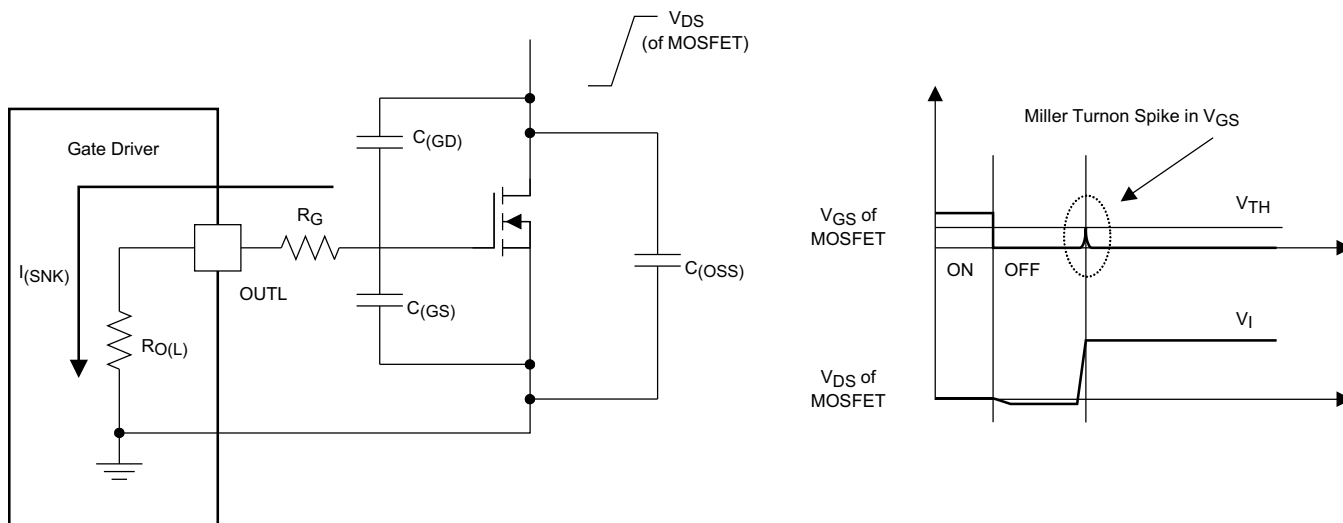

Figure 24. Very-Low Pulldown Impedance in UCC27511A, 4-A and 8-A Asymmetrical Drive (Output Stage Mitigates Miller Turnon Effect)
An example of a situation where the Miller turnon effect is a concern is synchronous rectification (SR). In an SR application, the dV/dt occurs on the MOSFET drain when the MOSFET is already held in off state by the gate driver. The current discharging the $C_{(GD)}$ Miller capacitance during this dV/dt is shunted by the pulldown stage of the driver. If the pulldown impedance is not low enough then a voltage spike can result in the V_{GS} of the MOSFET, which can result in spurious turnon. This phenomenon is shown in Figure 24. The UCC27511A device offers a best-in-class, 0.375- Ω (typ) pulldown impedance boosting immunity against Miller turnon.